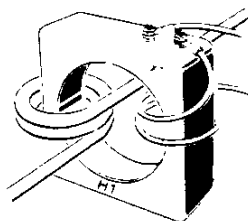
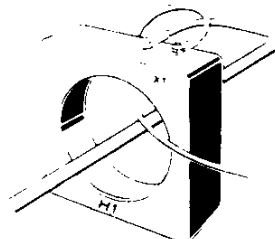

Figure 1
Figure 2
**Primary Turns** — To provide a coarse adjustment to the ratio, the required number of primary turns should be applied as shown in Figure 1. An electrical turn is defined as one pass through the window.
**Secondary Turns** — For finer adjustment to the ratio, secondary turns may be added or subtracted by routing the X1 lead in the proper direction. To **subtract** turns, take the X1 lead and pass it through the window from H1 to H2 as shown in Figure 1. To **add** turns, the X1 lead is passed through the window in the reverse direction as shown in Figure 2.